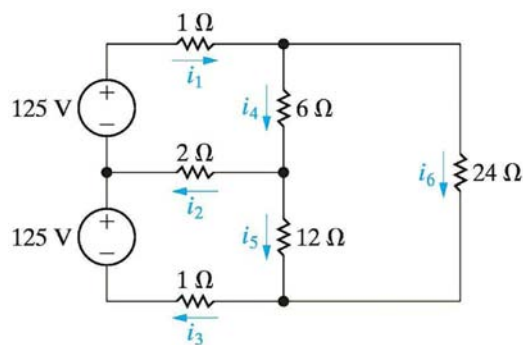

Figure 2
2. The circuit shown in Fig. 2 is a dc model of a residential power distribution circuit.